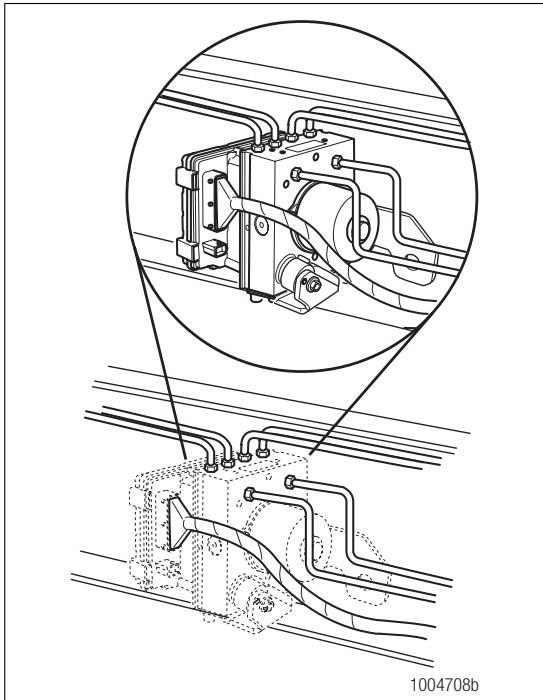

Figure 3.3
4. Position the modulator assembly in place on the vehicle. Figure 3.3.